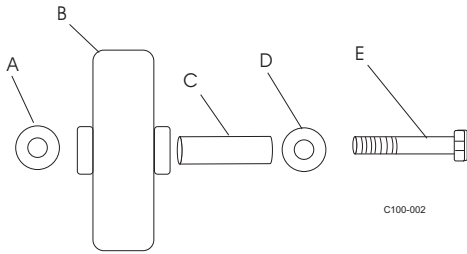

Figure 2 - Wheel Assembly
1. Assemble the Axle bolt (Figure 2, item E) with two Washers (items A and D) and the Axle Sleeve (item C) through the Wheel (item B).